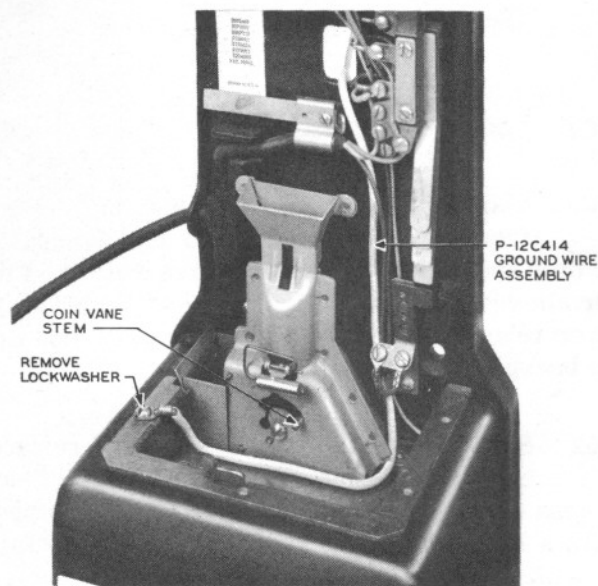

Fig. 7 – Method of Grounding Backplate Assembly, Indoor Booth
- In indoor booth, a No. 14-gauge insulated ground wire (P-12C414 ground wire assembly) is provided as covered in the C Section entitled Booths and Shelves, Indoor, Installation. Connect and dress wire as shown in Fig. 7. At prepay station, dress wire so that it will not interfere with operation of coin relay or placing of coin relay shield.